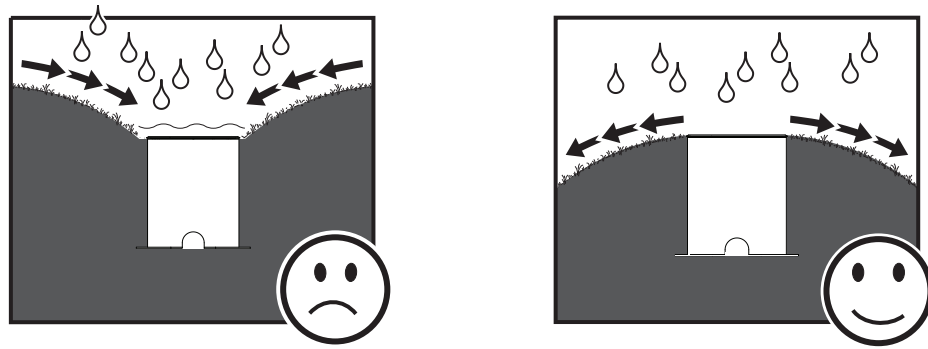

Figure 3: Avoiding flooding
- See Figure 3. To minimize the risk of flooding or waterlogging, install the fixture in a location which is above the level of the surrounding area and/or make sure that drainage conditions are adequate.